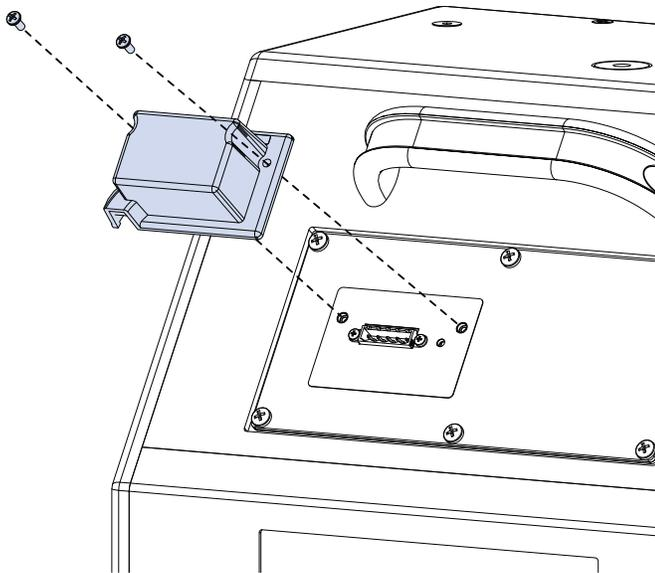

Figure 20: USW-112XP with Rain Hood Assembly
2. Secure the rain hood to the user panel with the two 6-32 x 0.38-inch pan head screws provided (Figure 20). The recommended torque value for rain hood screws is 8 in-lbs (0.9 N·m).